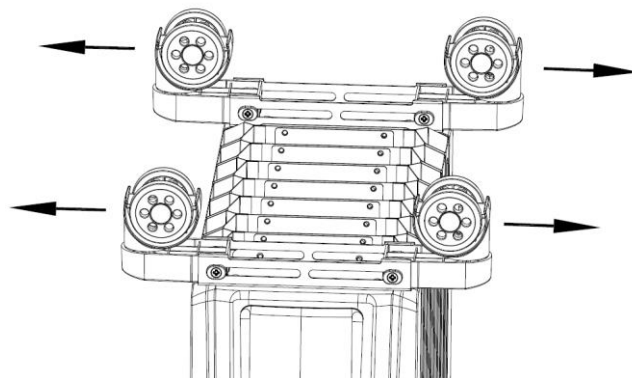

Fig 1
- Pull out the wheel base to each side ,see Fig 1.